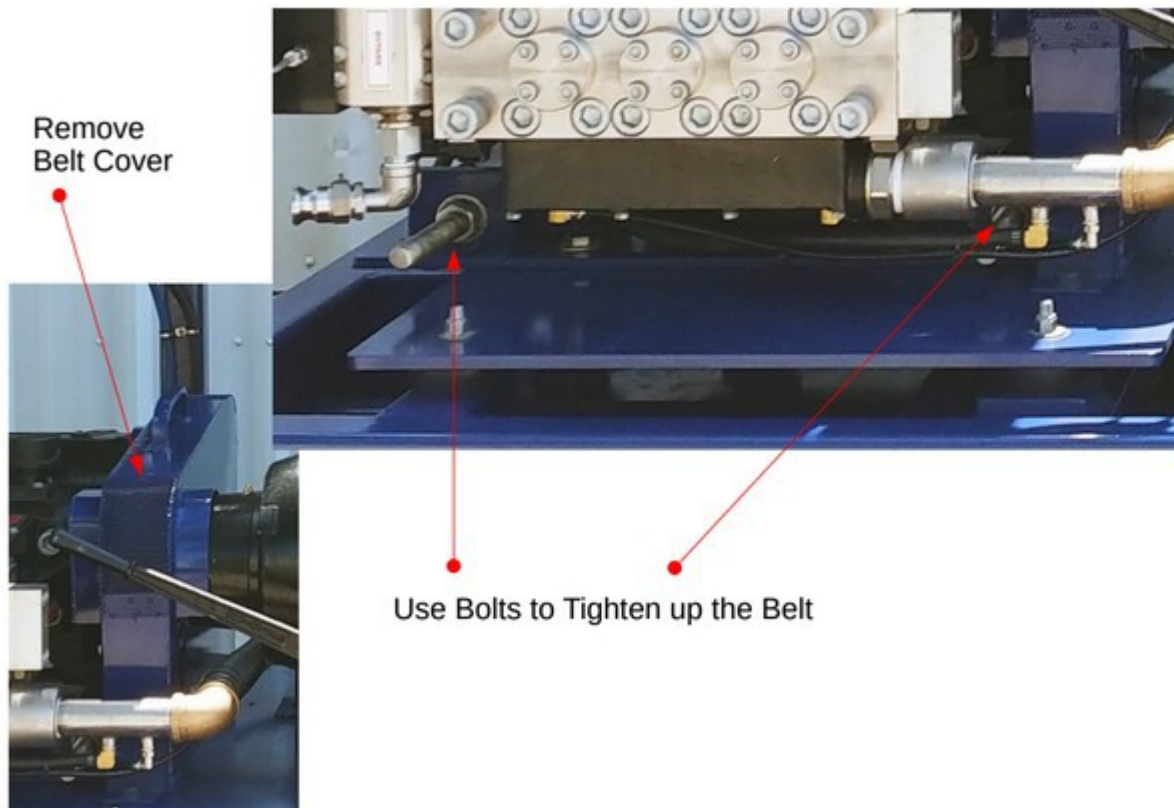

Figure 6.2 – Inspection / Belt Tension
1. Remove the belt guard cover (See **Figure 6.2**).
2. If belts need tightening, use the tightening nut to adjust (See **Figure 6.2**).